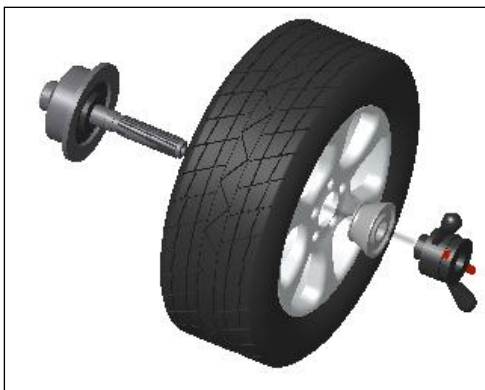

Fig. 1b
3. Methode B. Cono exterior (Fig. 1b)